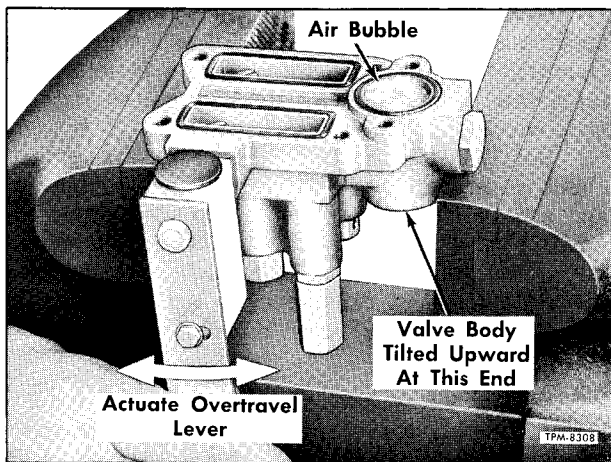

Figure 9—Venting Air from Silicone Fluid
2. Pour 5.5 cc \pm 0.25 cc of Silicone fluid (750 Centistokes viscosity at 25°C) into delay piston bore. With valve body tilted slightly as shown in figure 9 carefully operate overtravel lever fore and aft to vent air from fluid. When all air has been expelled from piston pin cavity, check fluid level using depth gauge as shown in figure 10.